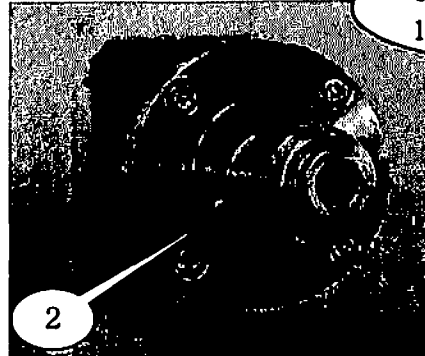
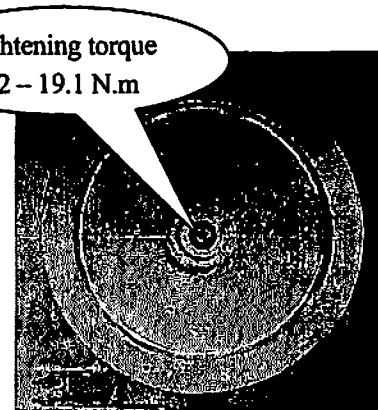

Fig. 8-2 Reel Shaft
Fig. 8-3 Reel Installation
Attach the wire reel (Fig. 8-2) in the reel shaft part (Fig. 8-3) as shown in Fig. 8-3. In this point, insert the reel shaft positioning pin (2) into the wire reel positioning pin hole (1). There is one positioning pin on the reel shaft.